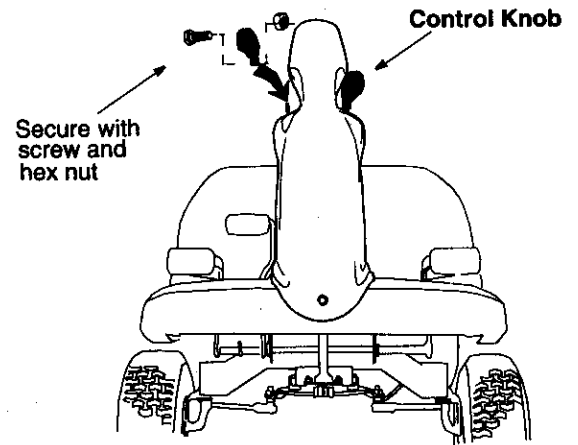

Figure 8
- Attach control knobs to the shift lever and throttle/choke control lever using truss head machine screws and hex nuts. See Figure 8.